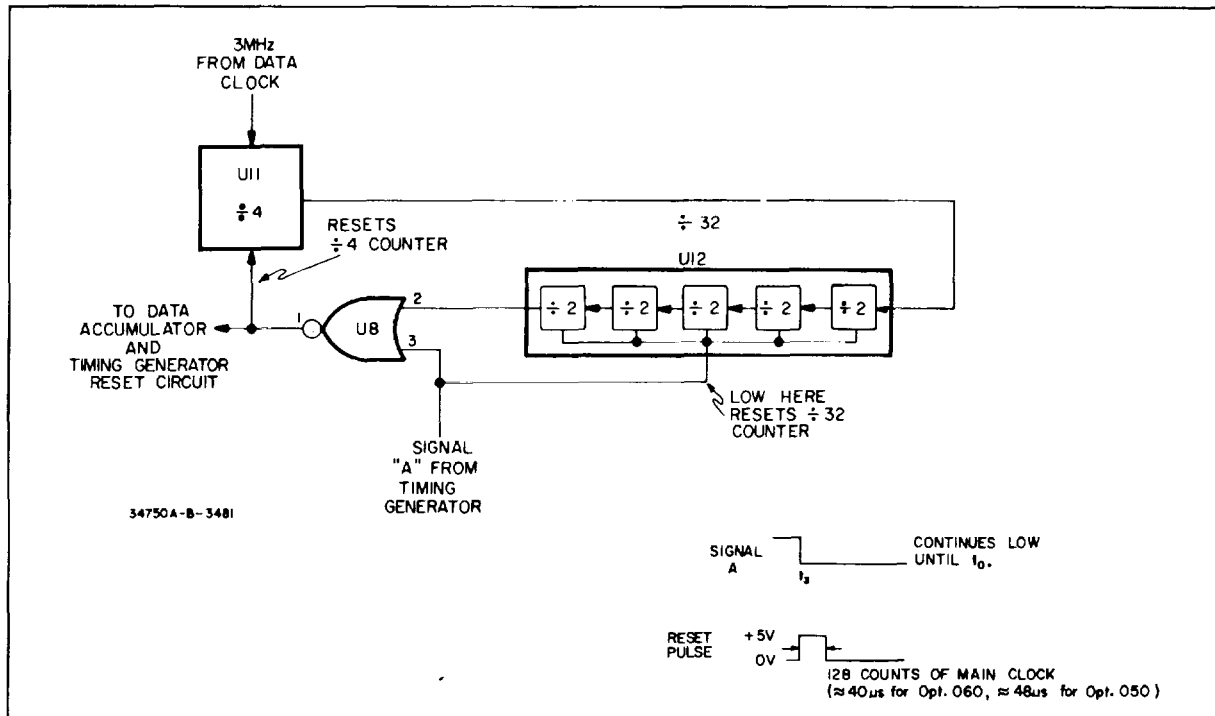

Figure 4-12. Reset Timing.
**4-27. Reset Timing (See Figure 4-12).**
4-28. The Reset Timing circuits generate a reset pulse at the beginning of run-down (T3) in the measurement cycle. When signal "A" goes low the + 32 counter (U12) is reset causing Pin 2 of U8 to go low and pin 1 to go high. This initiates the Reset Pulse and enables the flip-flops in the -4 counter (U11). Figure 4-12 shows the